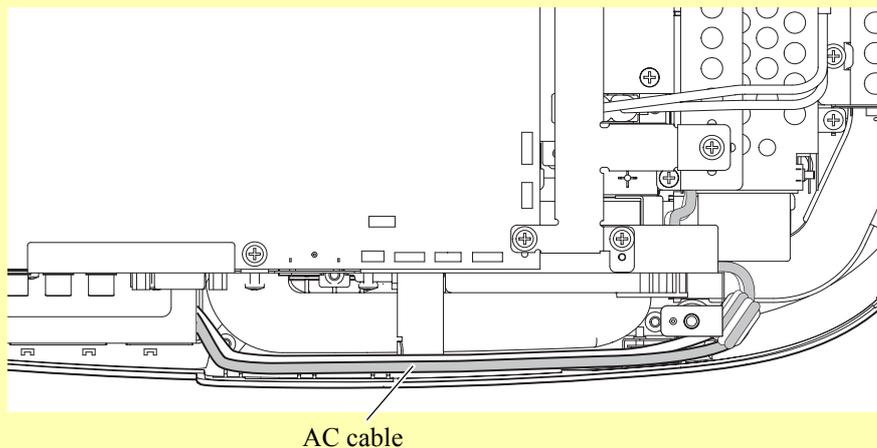

Figure 4-43.
- Route the AC cable as shown in Figure 4-43, putting the cable into the Lower Case as much as possible.